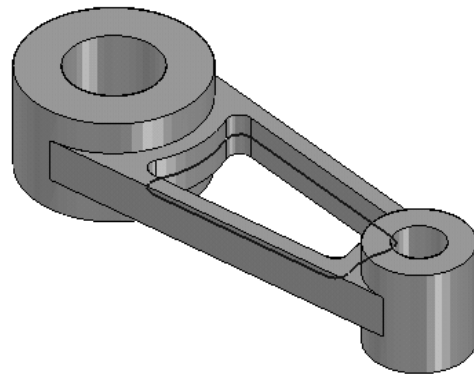

Figure 5-65 Model after creating the cutout
- Create a cutout in the second feature by using the sketch, refer to Figure 5-65.
5. Choose **Finish** and then **Cancel** to exit the **Cut** tool. The model after creating the cutout is shown in Figure 5-65. This figure also shows the sketch because the sketch display has not been turned off.